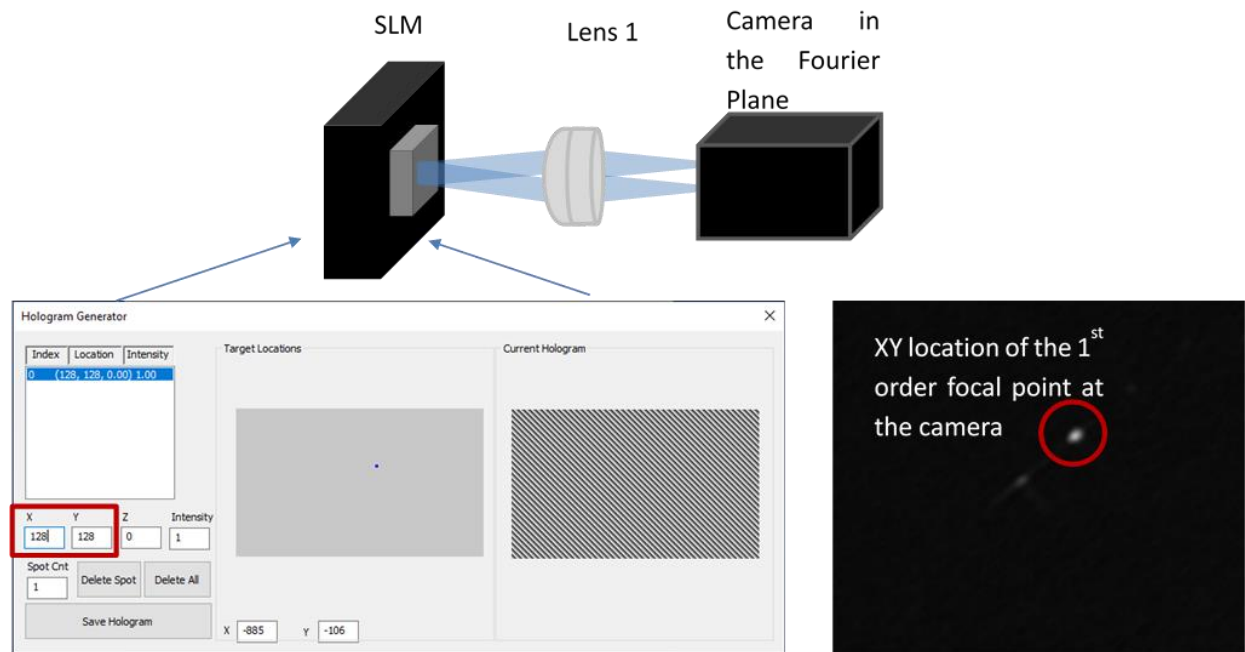

Figure 19 Typical diffractive calibration data
An affine transformation can be applied to the hologram computation algorithm to apply a mapping between focal point locations in the image plane, and focal point locations generated by the SLM. To calculate the transformation the user should create a series of three focal points in XY locations in SLM coordinates and record the resulting location of the 1st order focal point at a detector in the Fourier Plane. For example, Figure 19 shows one of the three measurements that must be passed as parameters to CalculateAffinePolynomials: a focal point with a SLM XY location of 128, 128, and a corresponding first order focal point on a camera. The locations will be passed as SLM_X_0 (128), SLM_Y_0 (128), CAM_X_0 (the x location of the 1st order), and CAM_Y_0 (the y location of the 1st order). To get a good calibration it is recommended that focal point locations are recorded when steering a focal point to three different quadrants. For example, SLM XY locations of: (128,128), (-128, 128), and (-128, -128). If 128 is too close to the 0th order to get an accurate measurement a wider angle can be used, such as 256 or 512.